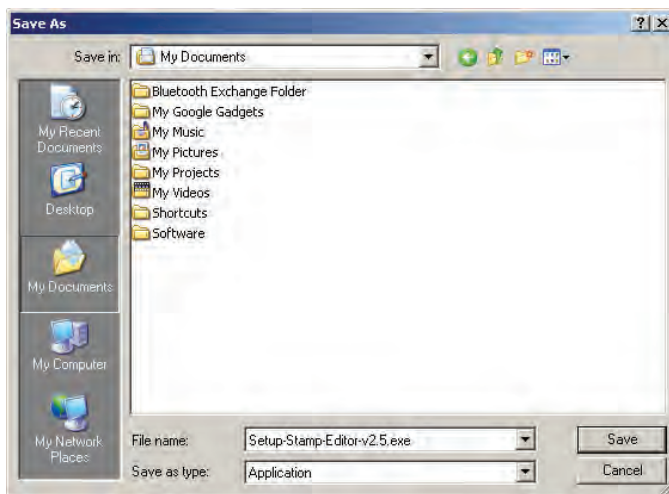

Figure 1-11
- ✓ Use the Save in field to choose a place on your computer to save the installer file, then click the Save button (Figure 1-11).